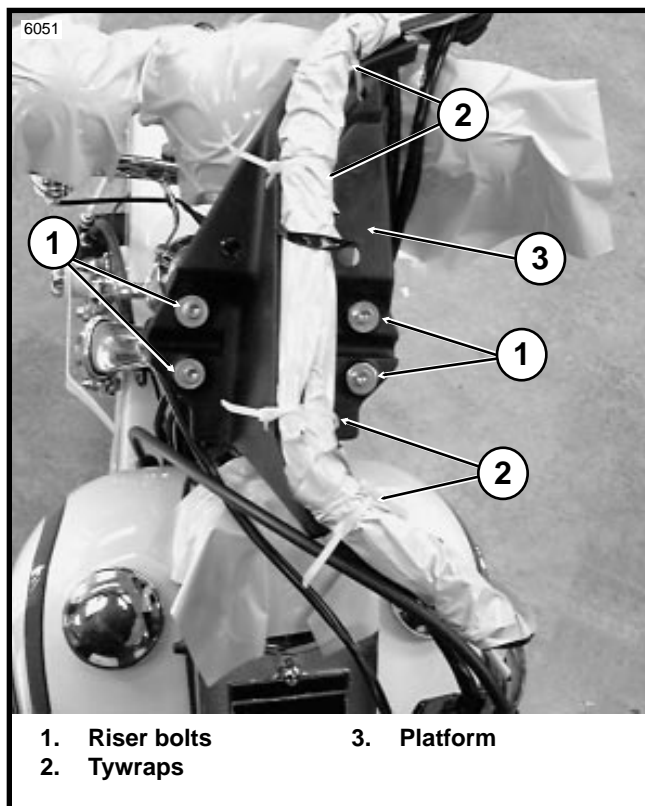

Figure 1
1. See Figure 1. Remove the four riser bolts (1) and washers which hold the platform (3) to the riser. Retain the four bolts, discard washers.